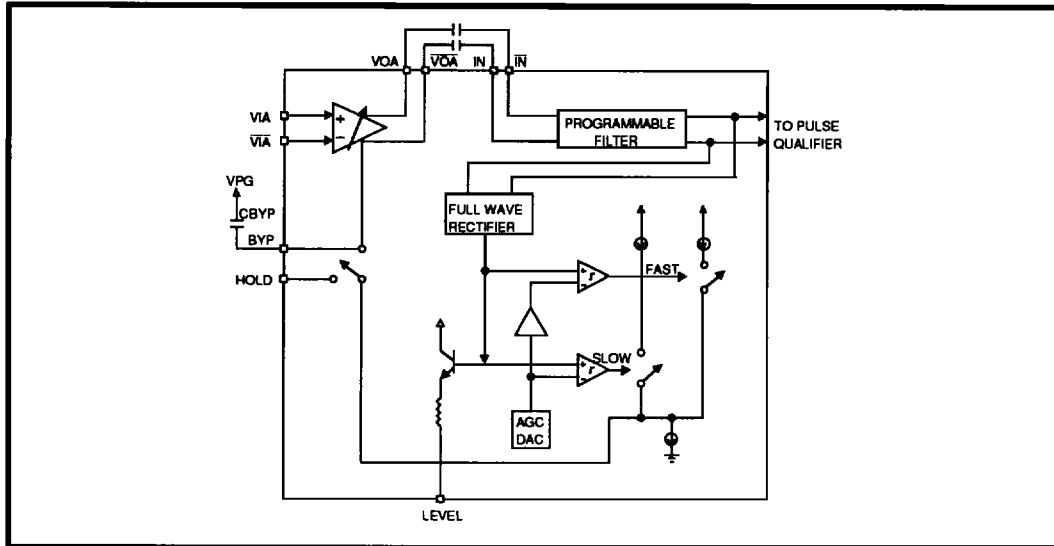

FIGURE 1: AGC Block
The gain of the AGC amplifier is controlled by the voltage ( $V_{BYP}$ ) stored on the BYP hold capacitor ( $C_{BYP}$ ), Figure 1. A dual rate charge pump drives  $C_{BYP}$  with currents that depend on the instantaneous differential voltage at the DP/DN pins. Attack currents lower  $V_{BYP}$  which reduces the amplifier gain, while decay currents increase  $V_{BYP}$  which increases the amplifier gain. When the signal at DP/DN is greater than 100% of the programmed AGC level, the nominal attack current of 0.17 mA is used to reduce the amplifier gain. If the signal is greater than 125% of the programmed AGC level, a fast attack current of eight (8) times nominal is used to reduce the gain. This dual rate approach allows AGC gain to be quickly decreased when it is too high yet minimizes distortion when the proper AGC level has been acquired.